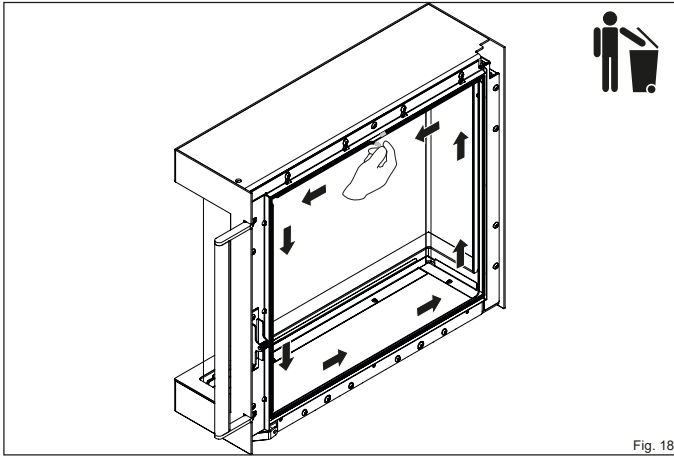

Fig. 18
- ▶ **Pull the old seal out of the rail starting at one end and dispose of it in the waste (Fig. 18).**